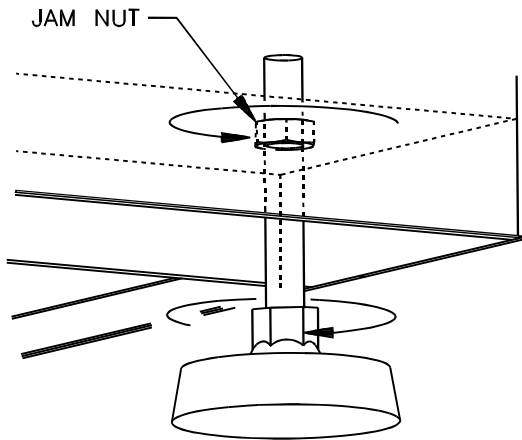

Figure 2-9. Tighten Jam Nuts
10. Lock all (6) leveling pads in place by tightening the jam nuts against the inside of the machine's base as in Figure 2-9. The nuts are accessed from inside the machine.